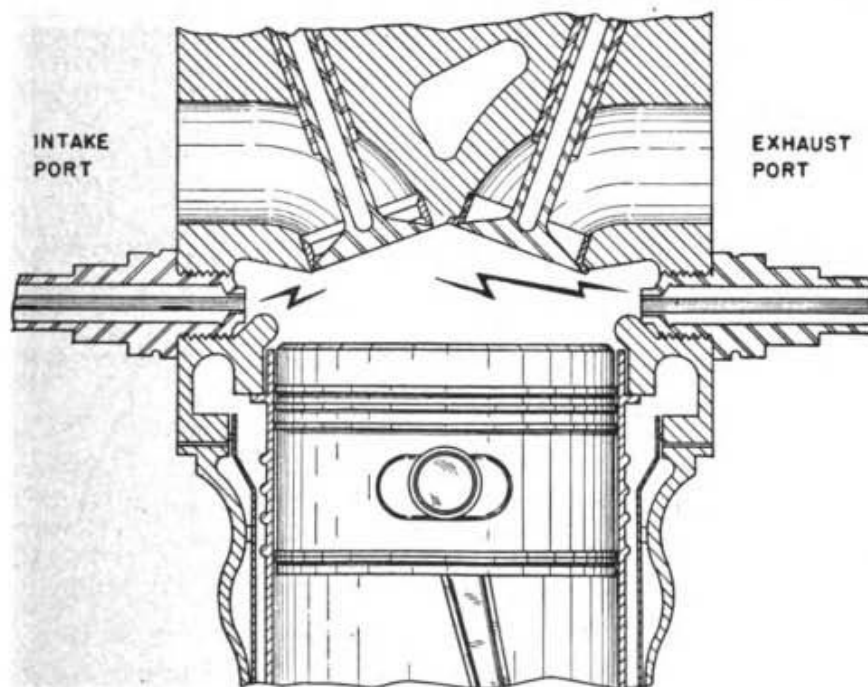

Figure 17. *Staggered spark.*
(2) **STAGGERED SPARK.** Since exhaust systems are not 100 percent efficient, some of the exhaust gases from the previous charge remain in the vicinity of the exhaust valve. The new charge entering combines with these gases and forms a slow-burning mixture in this area. *Staggered spark* is designed to eliminate "lopsided" burning. With this arrangement, the spark plug nearest to the exhaust valve fires 4° to 8° of crankshaft travel before the other spark plug, as shown in figure 17.